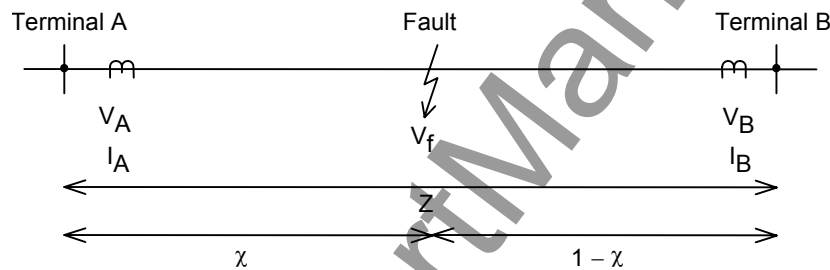

Figure 2.17.4.1 Two-terminal Model
In the case of a two-terminal line as shown in Figure 2.17.4.1, the relationship between the voltages at the local and remote terminals and the voltage at the fault point are expressed by Equations (1) and (2).